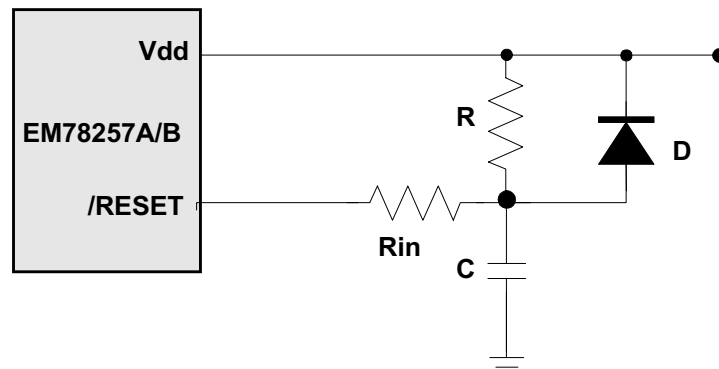

Fig. 18 External Power on Reset Circuit
The circuit shown in Fig.18 implements an external RC to produce the reset pulse. The pulse width (time constant) should be kept long enough for V_{dd} to reach minimum operation voltage. This circuit is used when the power supply has slow rise time. Because the current leakage from the /RESET pin is about $\pm 5\mu\text{A}$, it is recommended that R should not be greater than 40 K. In this way, the voltage in pin /RESET will be held below 0.2V. The diode (D) acts as a short circuit at the moment of power down. The capacitor C will discharge rapidly and fully. R_{in}, the current-limited resistor, will prevent high current discharge or ESD (electrostatic discharge) from flowing to pin /RESET.